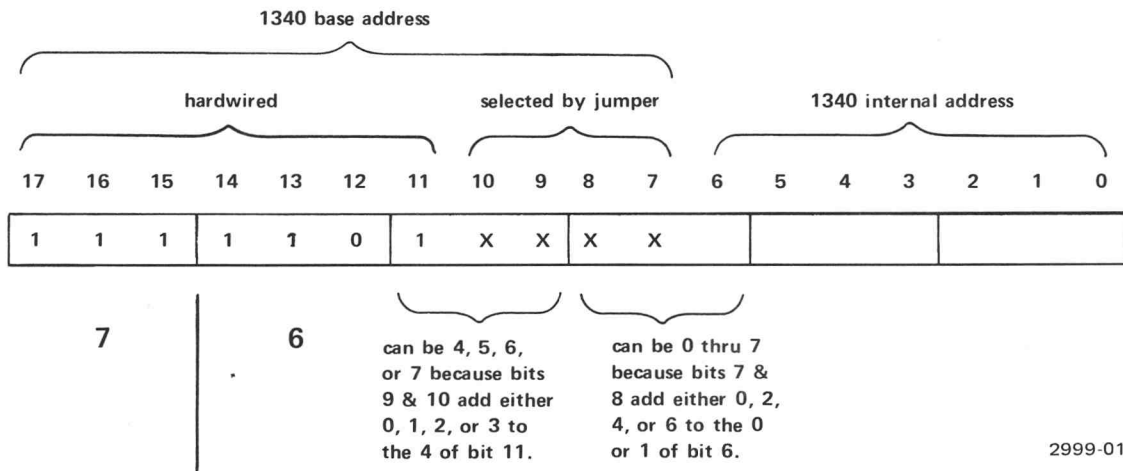

Figure 2-1. Relation of bits, selected by jumper, to characters in the 1340 base address.
2. The octal base address of the 1340 can be determined by inspecting jumpers 7, 8, 9, and 10 on the Address card. These jumpers establish the base address portion of the UNIBUS word as shown in Figure 2-1.